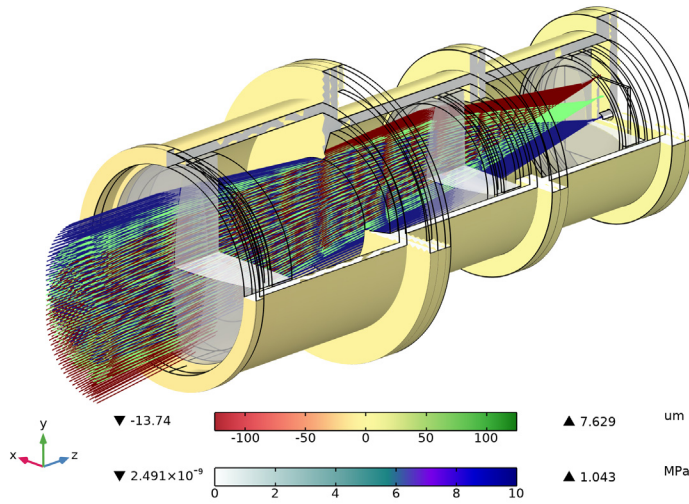

Figure 8: In this ray trace, the displacement field is shown together with the von Mises stress for a temperature $T = 25^{\circ}\text{C}$.
- 8 In the **Displacement** toolbar, click  **Plot**. Compare to Figure 8.